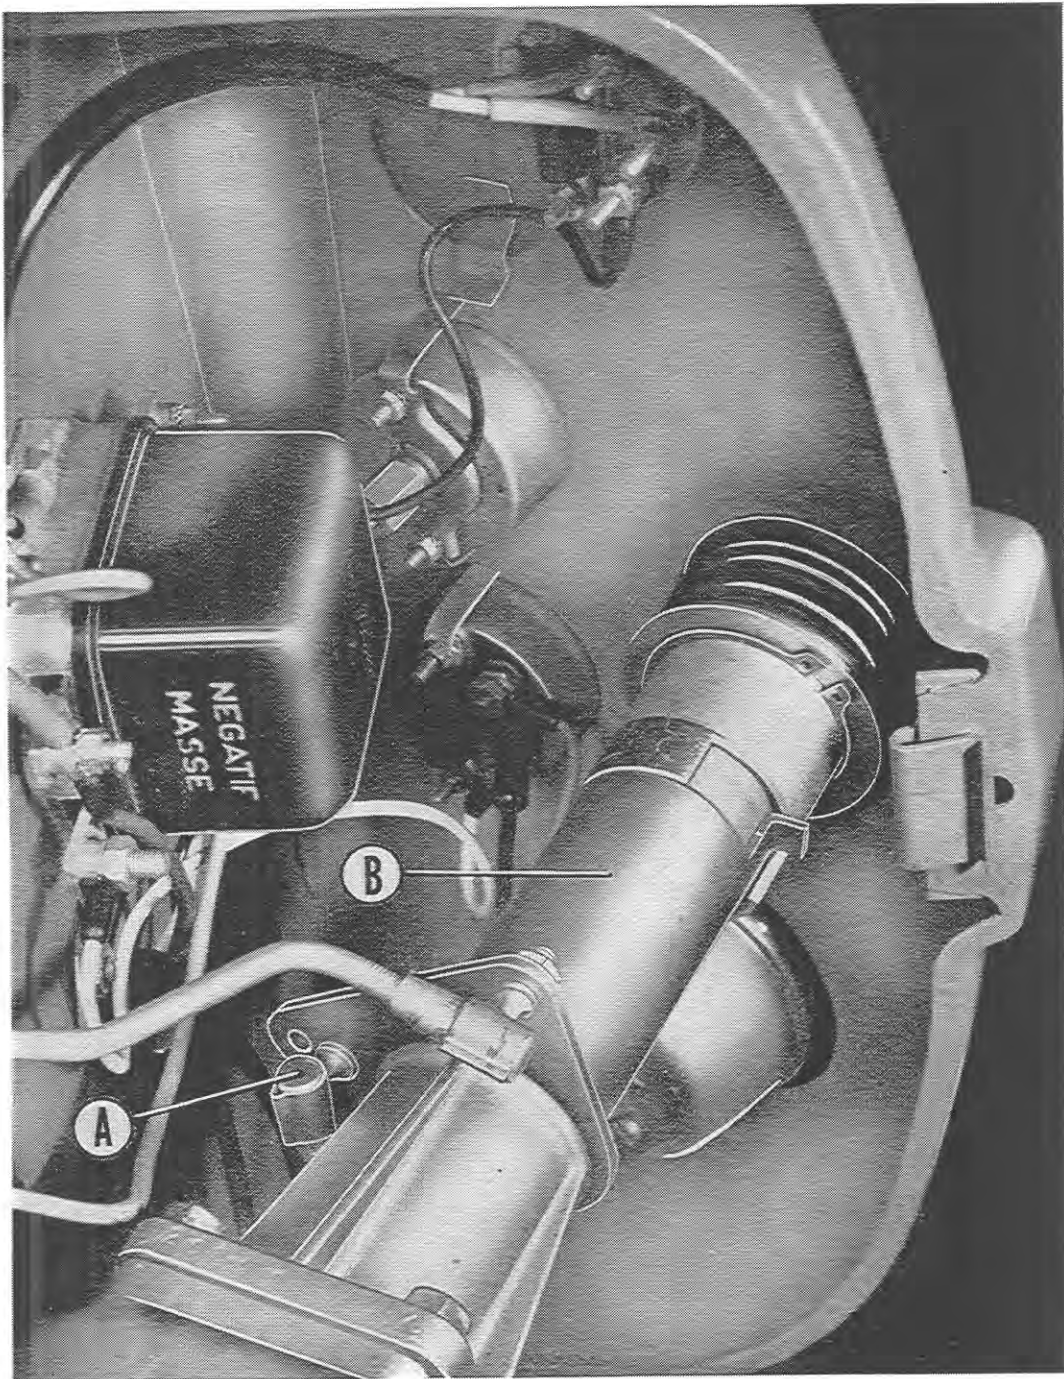

Fig. 2
- 2) Uncouple the rod of the throttle relay from the ball joint of the collar to which the throttle lever is attached (Fig. 2 - Ref. A).
- 3) Remove the collar from the steering column (Fig. 2 - Ref. B).